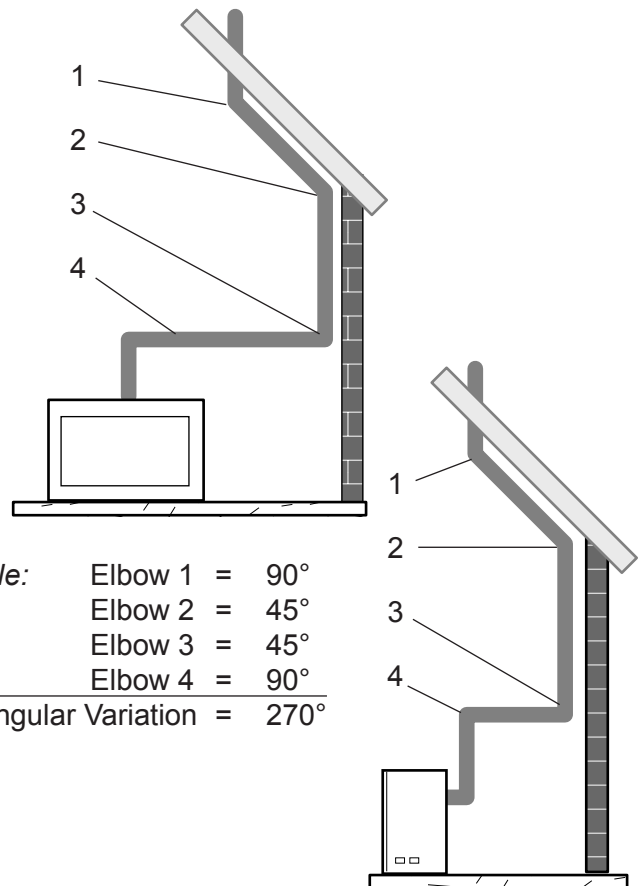

Figure 30 - Maximum elbow Usage
- Two sets of 45°elbows offsets may be used within the vertical sections. From 0 to a maximum of 8' (2.5 m) of vent pipe can be used between elbows. See Figure 30.
- The maximum angular variation allowed in the system is 270°. See Figure 30.